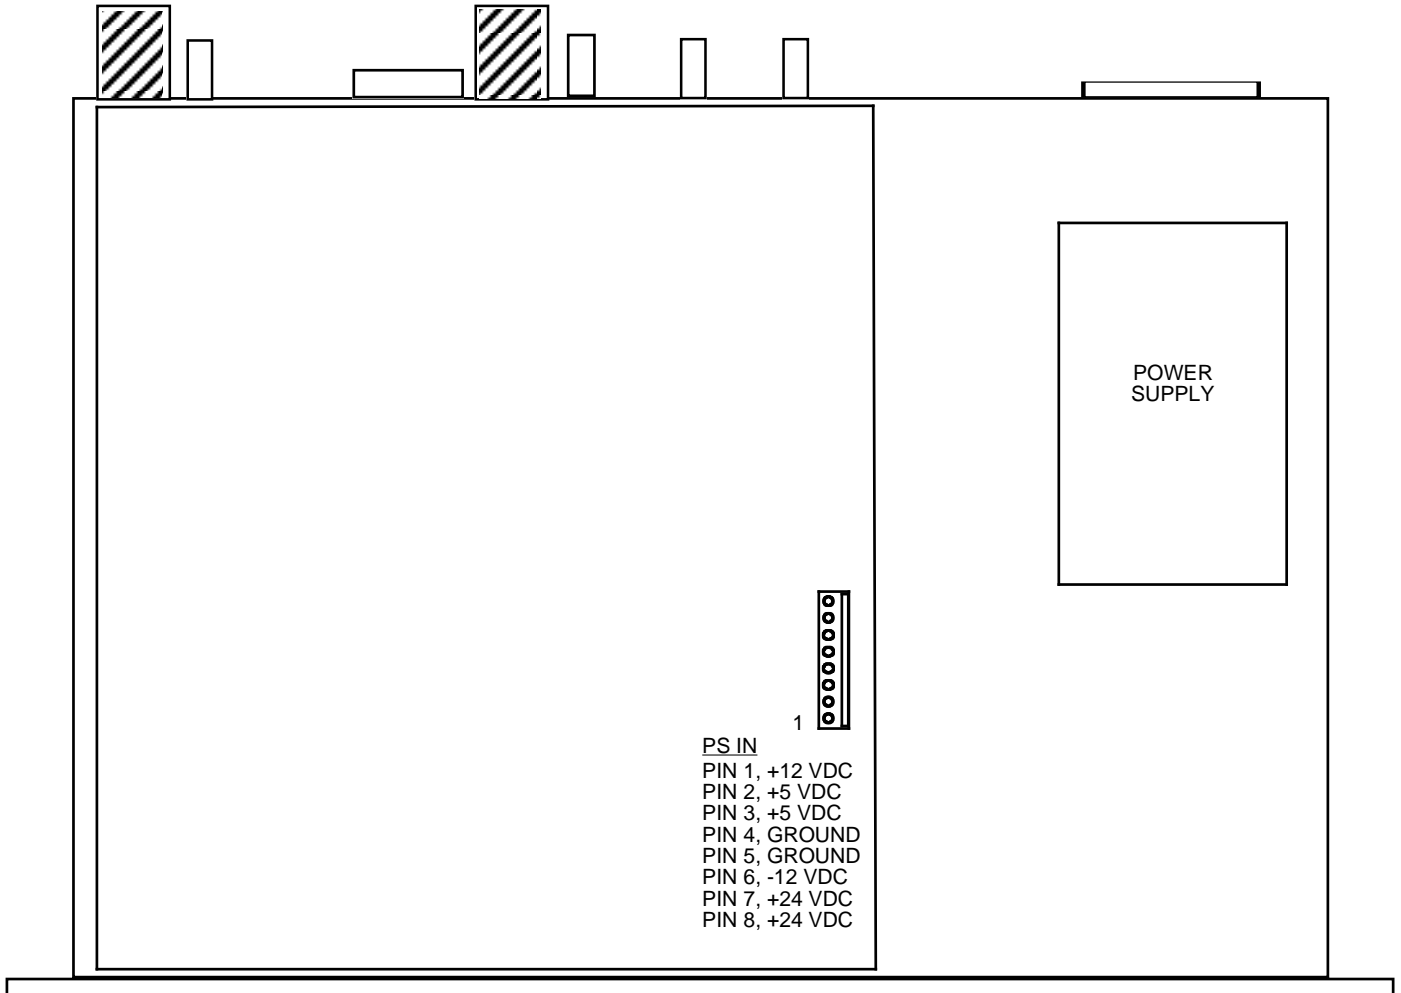

FIGURE 2.0 2117-5842 Mechanical Assembly
2.1 Mechanical - The 2117-5842 consists of one RF PCB housed in a 1 RU (1 3/4 inch high) by 14 inch deep chassis. A switching, ± 12 , +24, +5 VDC power supply provides power for the assemblies. The 2117-5842 can be secured to a rack using the 4 holes on the front panel. Figure 2.0 shows how the 2117-5842 is assembled.